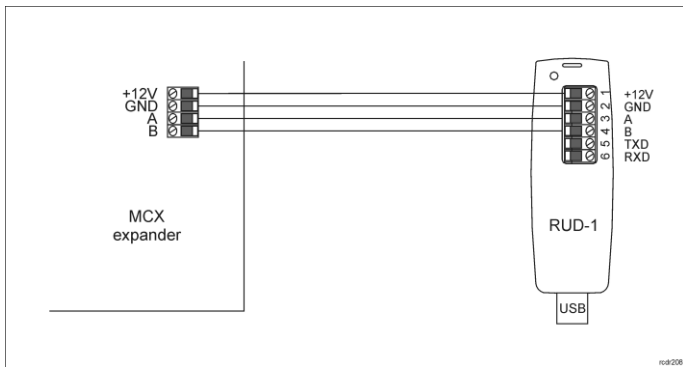

Fig. 1 Connection of the expander to RUD-1 interface for configuration
1. Connect the device to RUD-1 interface (fig. 1) and connect the RUD-1 to computer's USB port.